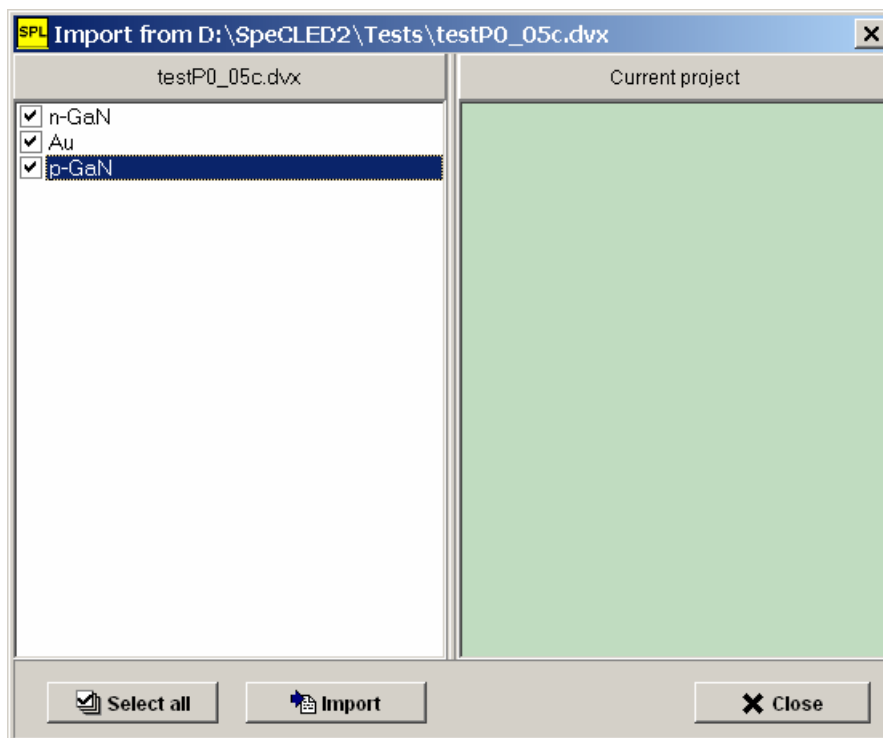

Fig. 45
- Button **Import** provides importing materials from other project files. After the user selects the file with materials, Import dialog window is opened (see Fig. 45). It contains the list of materials in the selected file at the left hand side and the list of materials in the current project at the right hand side. The user should check the materials to be imported and press the **Import** button.